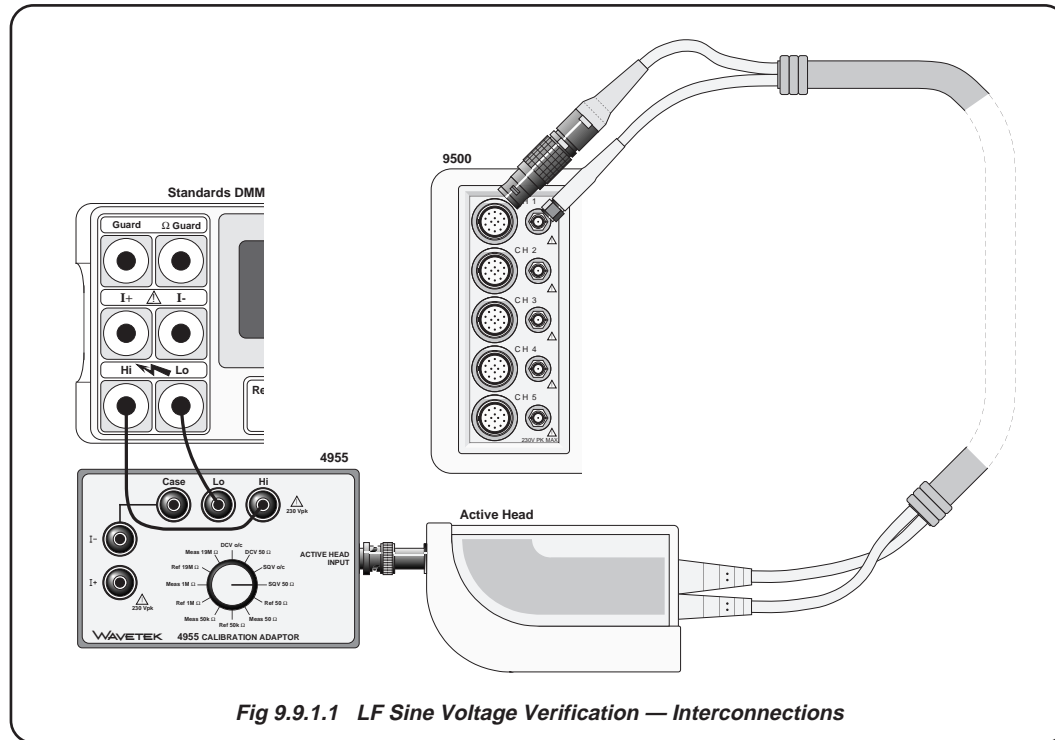

Fig 9.9.1.1 LF Sine Voltage Verification — Interconnections
- 1. Connections** Ensure that the 9500B is connected to the DMM as shown in Fig. 9.9.1.1, or via a similar PC3.5 or BNC-4mm adaptor, and that both instruments are powered on and warmed up.